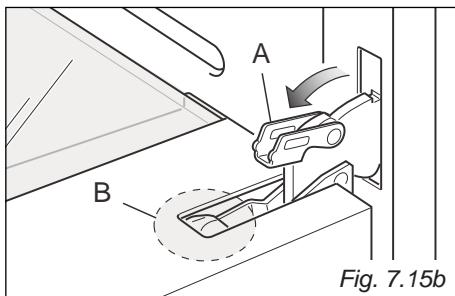
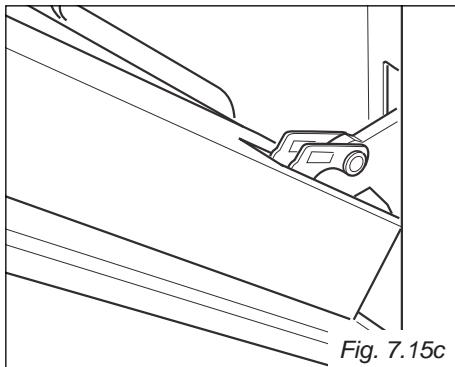

Fig. 7.15b
Fig. 7.15c
- Open the lever "A" completely on the left and right hinges (fig. 7.15b).
- Gently close the door (fig. 7.15c) until left and right hinge levers "A" are hooked to part "B" of the door (fig. 7.15b).